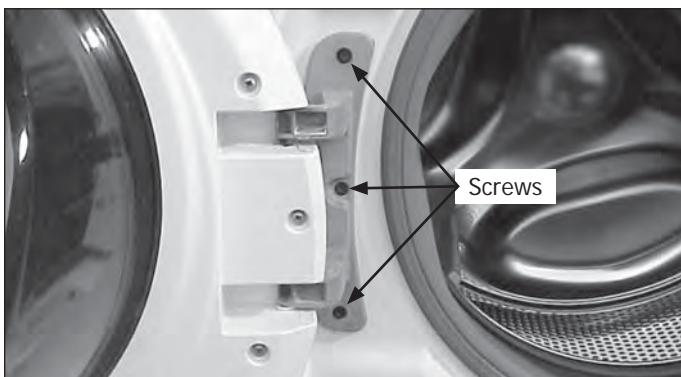

Figure 4-2.
1. Extract the (3) screws securing the door hinge to the front panel. (See Figure 4-2)